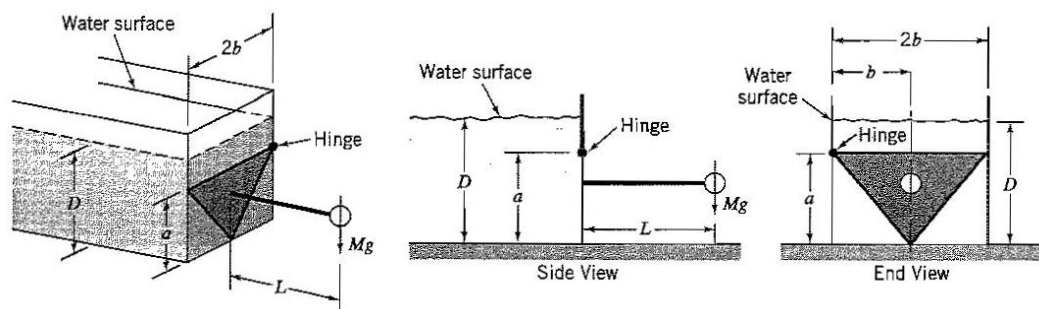

Figure P2.98
2.98 A rigid, submerged, triangular gate is hinged as shown in Figure P2.98. (a) Find the magnitude and direction of the total force exerted on the gate by the water. (b) A weight Mg on a rigid lever arm of length L is meant to keep this gate shut. What is the depth of water D when this gate is just about to open? Neglect the weight of the gate, and the weight of the lever arm.